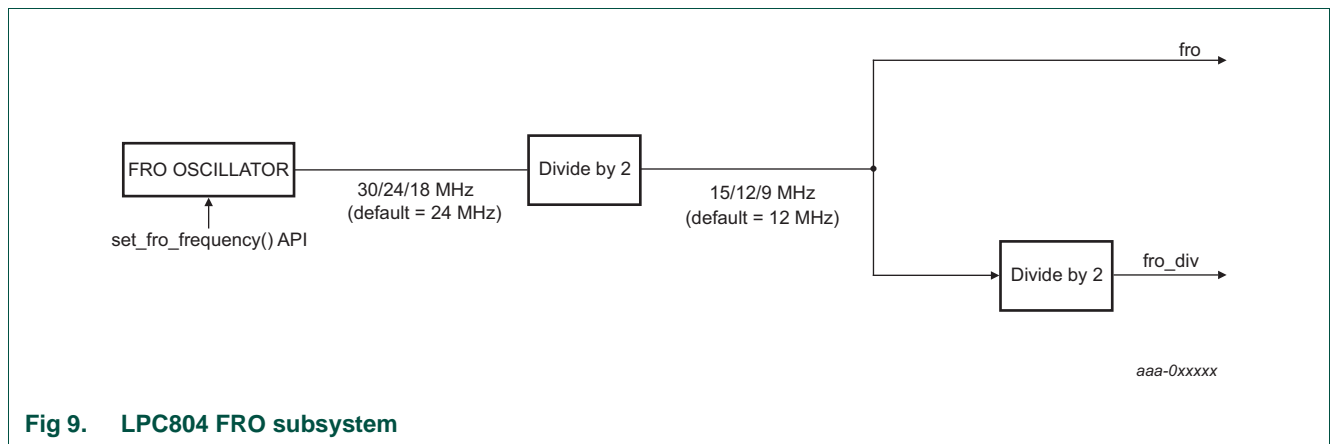

Fig 9. LPC804 FRO subsystem
2. Select the fro_oscout (30 MHz/24 MHz/18 MHz) using the set_fro_frequency API call: Chapter 7 “LPC804 FRO API ROM routine” and Figure 9 “LPC804 FRO subsystem”.
fro_div	Divided output of the currently selected on-chip FRO oscillator. See Figure 9 “LPC804 FRO subsystem” .
fro	The output of the currently selected on-chip FRO oscillator. See Figure 9 “LPC804 FRO subsystem” .